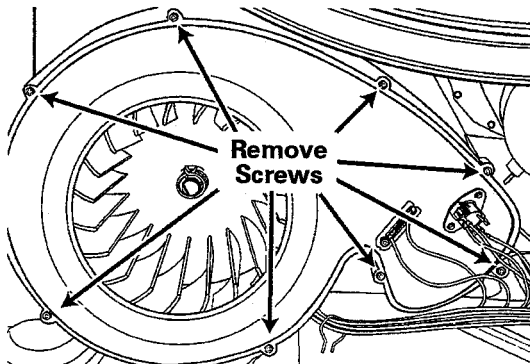

Figure 2-45
2. Remove eight screws holding cover to blower housing, *see Figure 2-45*.